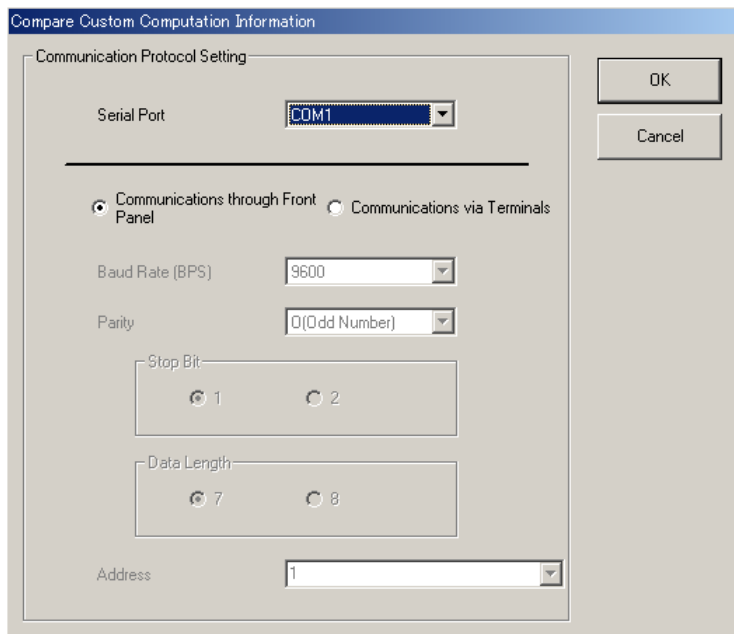

Figure 8.3.1 [Compare Custom Computation Information] Dialog Box
- (1) From the tool menus, click <Communication>, then <Compare...>. The [Compare Custom Computation Information] dialog box (Figure 8.3.1) appears.
- (2) In the dialog box, click the <Communications through Front Panel> option button.
- (3) From the <Serial Port> drop-down list box, choose either COM1 to COM16.
- (4) Click the <OK> button.
- (5) As a result of data comparison, the message “Match” or “No match” appears.
- (2) In the dialog box, click the <Communications via Terminals> option button.
- (3) From the <Serial Port> drop-down list box, choose either COM1 to COM16. Then, from the <Baud rate>, <Parity> and <Address> drop-down list boxes, choose the options of the three communication conditions, the baud rate, parity and address. Also choose the options of the two communication conditions, the stop bit and data length, by clicking the appropriate option buttons in the <Stop bit> and <Data length> sections.